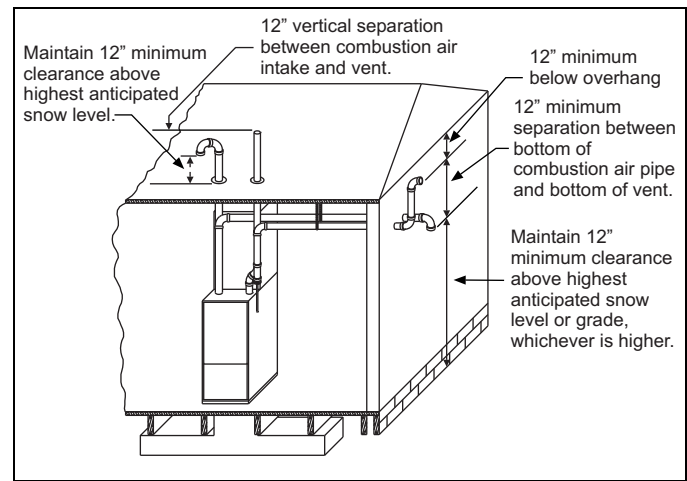

Figure 24: Termination configuration - two pipe
7. Direct vent systems must be installed so the vent and the combustion air pipes terminate in the same atmospheric zone. See Figures 24 or 25.